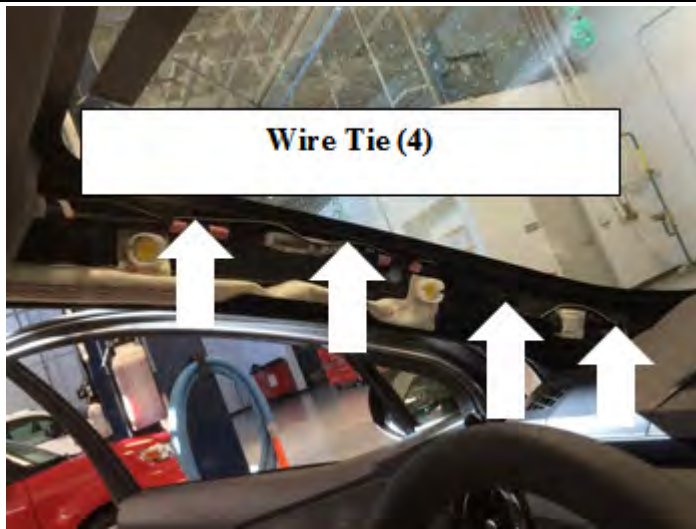

Figure 15
15. Route the mirror harness down to the bottom of the Front LH pillar. Wire tie the harness to the vehicle OE harness as shown using (3) wire ties. If equipped with a sunroof, be sure not to secure mirror harness to sunroof drain tube. See figure 15.